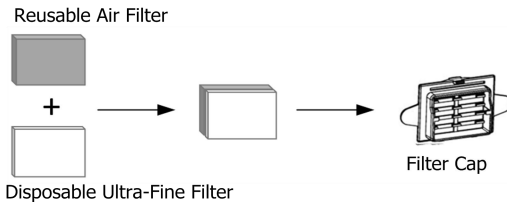

Fig. 12-2
(2) If the disposable ultra-fine filter is applied, place the reusable air filter first, the reusable air filter should be closest to the filter cap and the disposable ultra-fine filter should be closest to the device, as shown in Fig. 12-2.